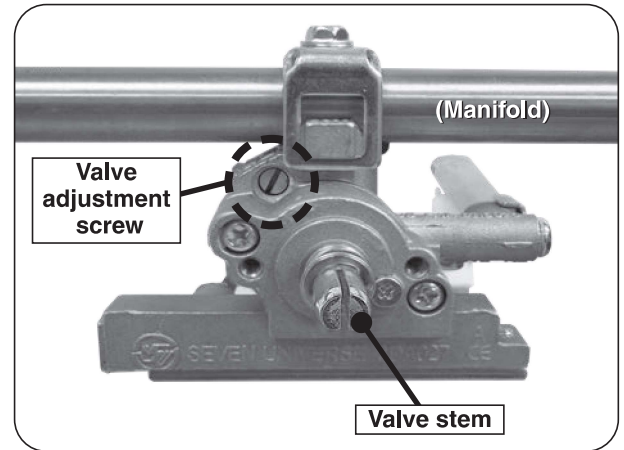

Fig. 34-1 Valve adjustment screw location
5. Locate the FLATHEAD adjustment screw found above the valve stem and below the manifold (see Fig. 34-1).